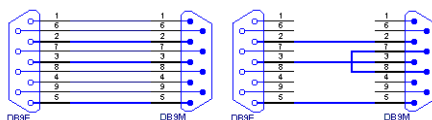

Fig 2: Serial cable DB9F-DB9M and 3-core cable
**Note:** If serial communication cannot be established and all parameters of communication are correctly set (speed, parity, etc.), then we recommend to remeasure the cable according to the **Fig 1** on pg 1. or **Fig 2** on pg 3. (especially pin connection 2 and 3).